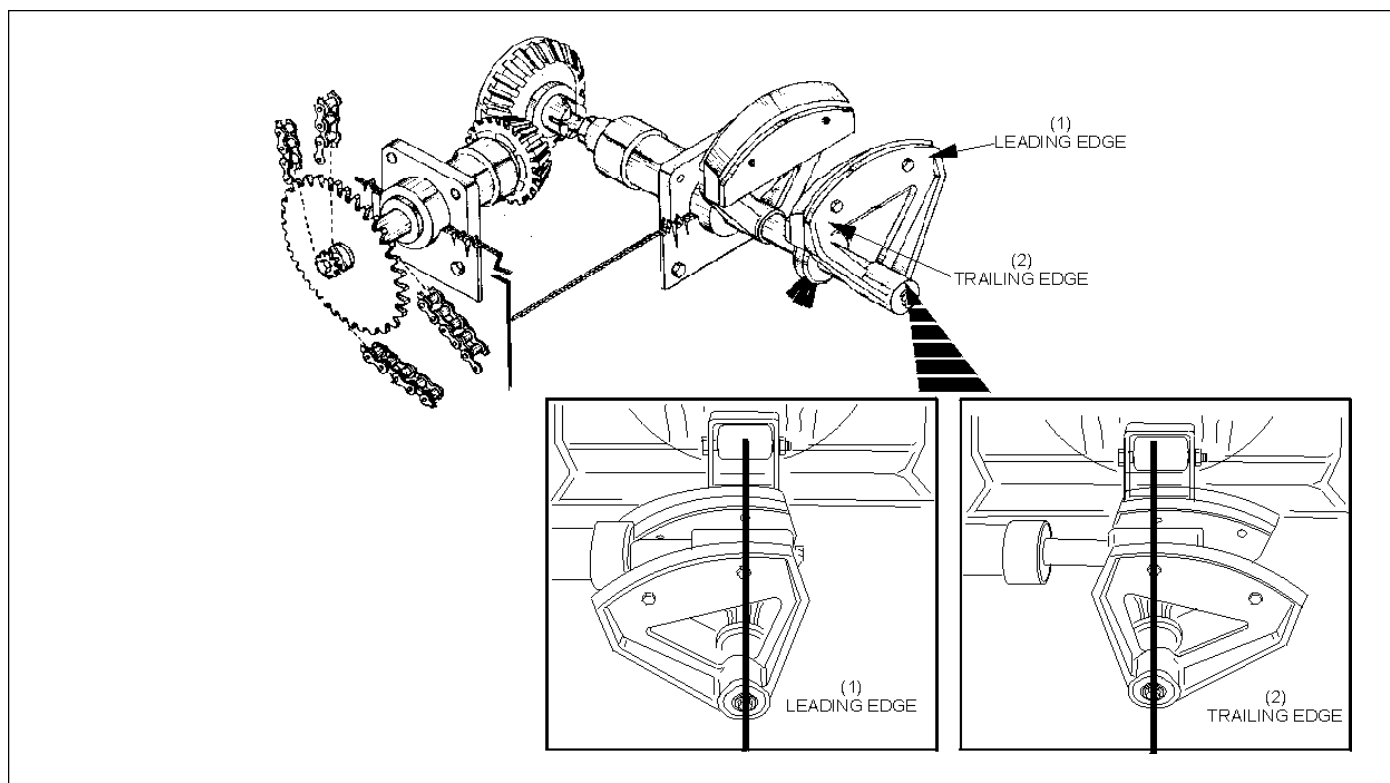

Figure 11. Oscillator Bumper Pad Adjustment
6. Manually rotate the large pulley on the ball roller shaft until the oscillator bumper's leading edge is aligned with the center of the ball roller and buffing wheel. The leading edge is designated by the first screw head that will pass by the buffing wheel when rotated in the clockwise direction. Refer to *Figure 11*.